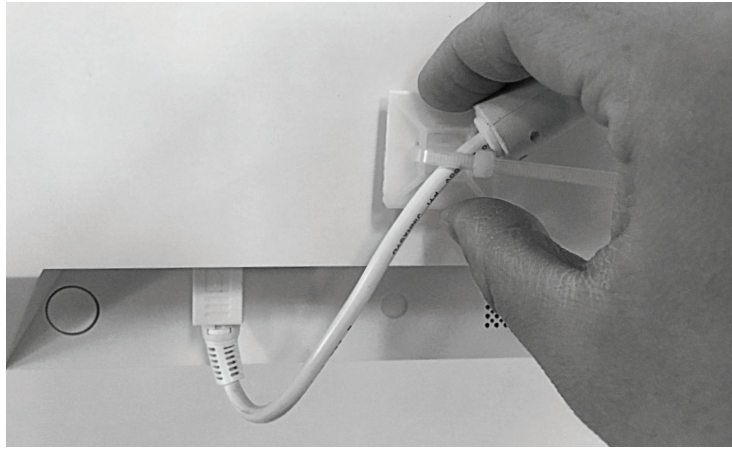

Figure 16: Secure the Power Cord
3. Plug the Power Cord into the Power Strip, and secure the excess cable with the straps on the Power Adapter Mount. See Figure 16.